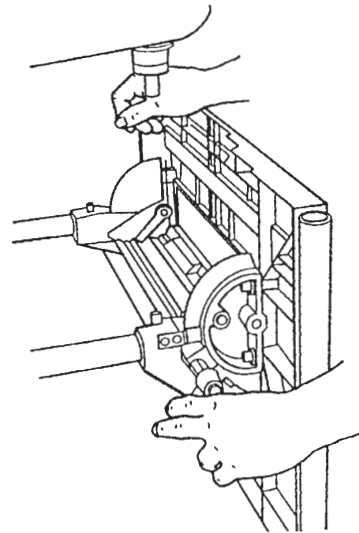
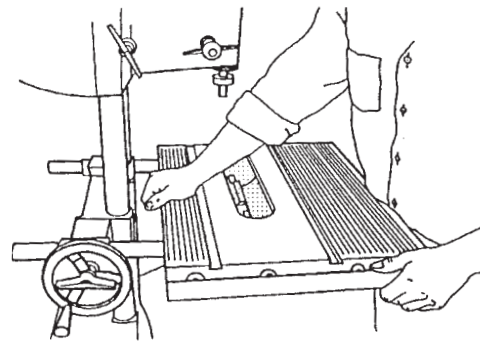

Figure C-12
Figure C-13
6. Move the worktable into the 90° position by loosening the table tilt lock (165), as seen in Figure C-12, then putting the worktable in the horizontal 90° position, see Figure C-13. Retighten the table tilt lock only enough to allow movement with firm pressure.